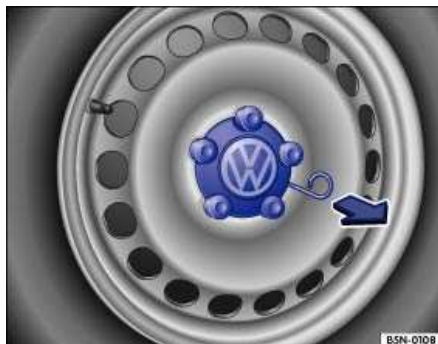

Fig. 27 Changing a wheel: removing the hubcap.
- Insert the hook through the hole in the cover ⇒ Fig. 27.